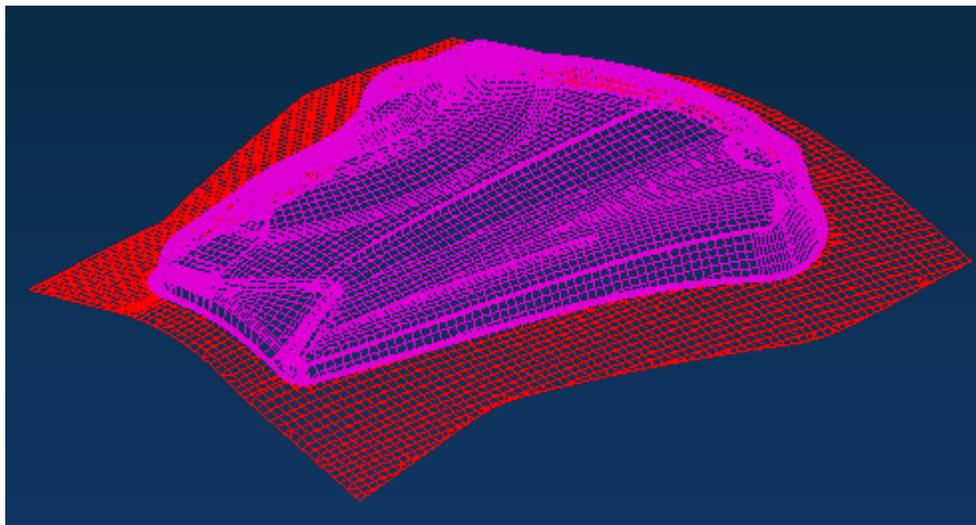

Figure 1.24 Copied elements
15. Click **Apply** button to copy selected elements to a new part. See Figure 1.24.